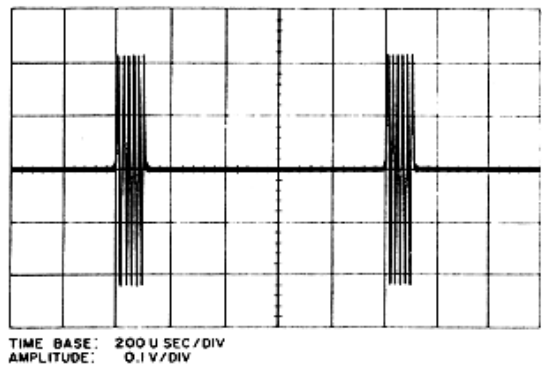

Figure 6.22 – Right Side of R61 Waveform
p. Reconnect oscilloscope to the junction of R61 and T4 pin 4 (or right side of R61). The observed 1 kHz spectrum waveform should resemble the one shown in figure 6.22.